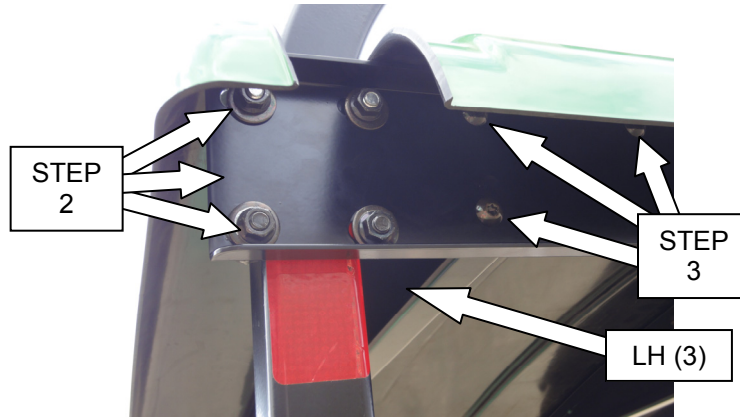
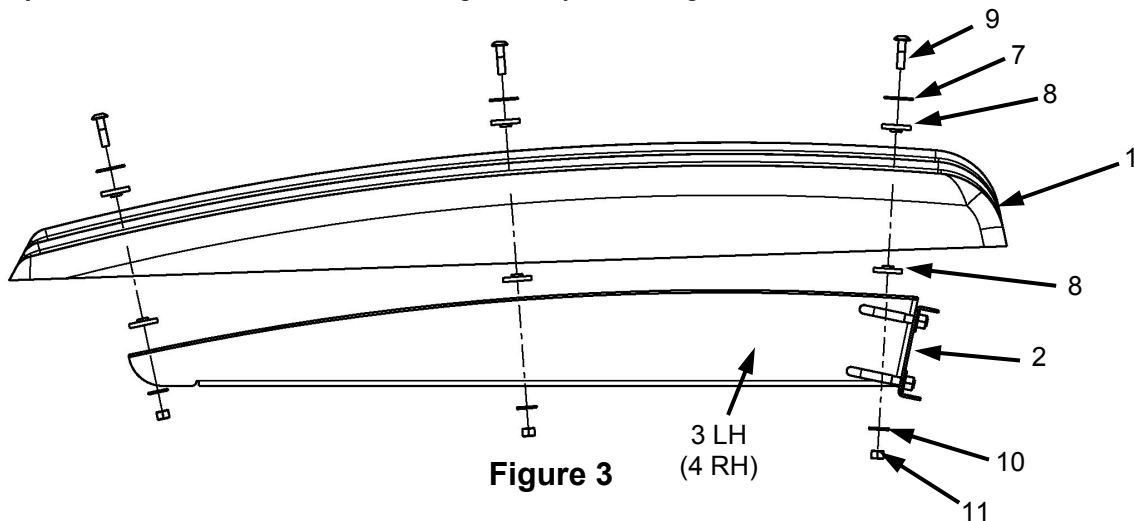

Figure 2
Figure 3
2. Place and attach rear cross member (2) to outside surface of ROPS top hoop, as shown in **Figure 2**.
3. Secure LH bracket (3) and RH bracket (4) to rear cross member (2) using (**Figure 2**);
- 6 - 3/8" x 3/4" long, hex head bolt (13)
- 6 - 3/8" nylock nut (14)Tighten bolts but leave loose enough for some adjustment if needed.
4. Place plastic roof (1) on top of LH and RH brackets and secure to brackets using (**Figure 3**);
- 6 - 5/16" x 1.25" long, truss torx head bolt (9) (top side of roof)
- 6 - 5/16" fender washer (7) (top side of roof)
- 12 - 5/16" rubber washer, shoulder (8) (one washer on each side of roof)
- 6 - 5/16" flat washer (10) (bottom side of brackets)
- 6 - 5/16" nylock nut (11) (bottom side of brackets)